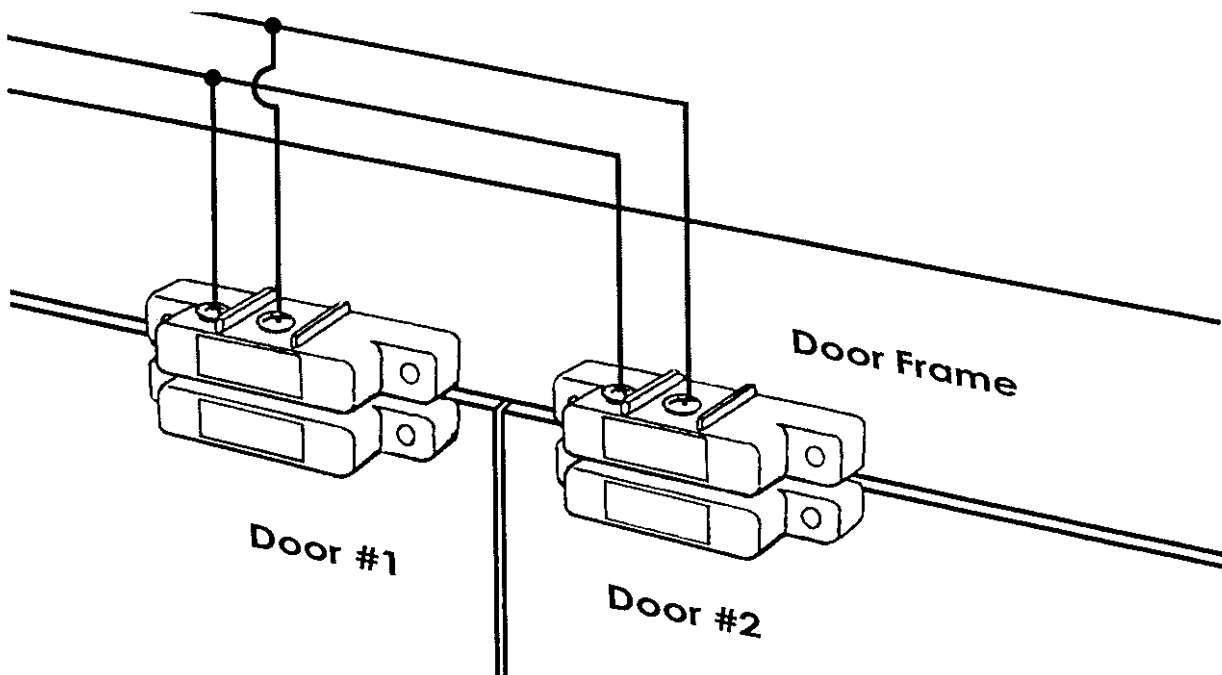

Figure 11: Magnetic Reed Switch Placement
2. Connect the wires to the switch as shown in Figure 11. Be sure to run the wires through the access hole.